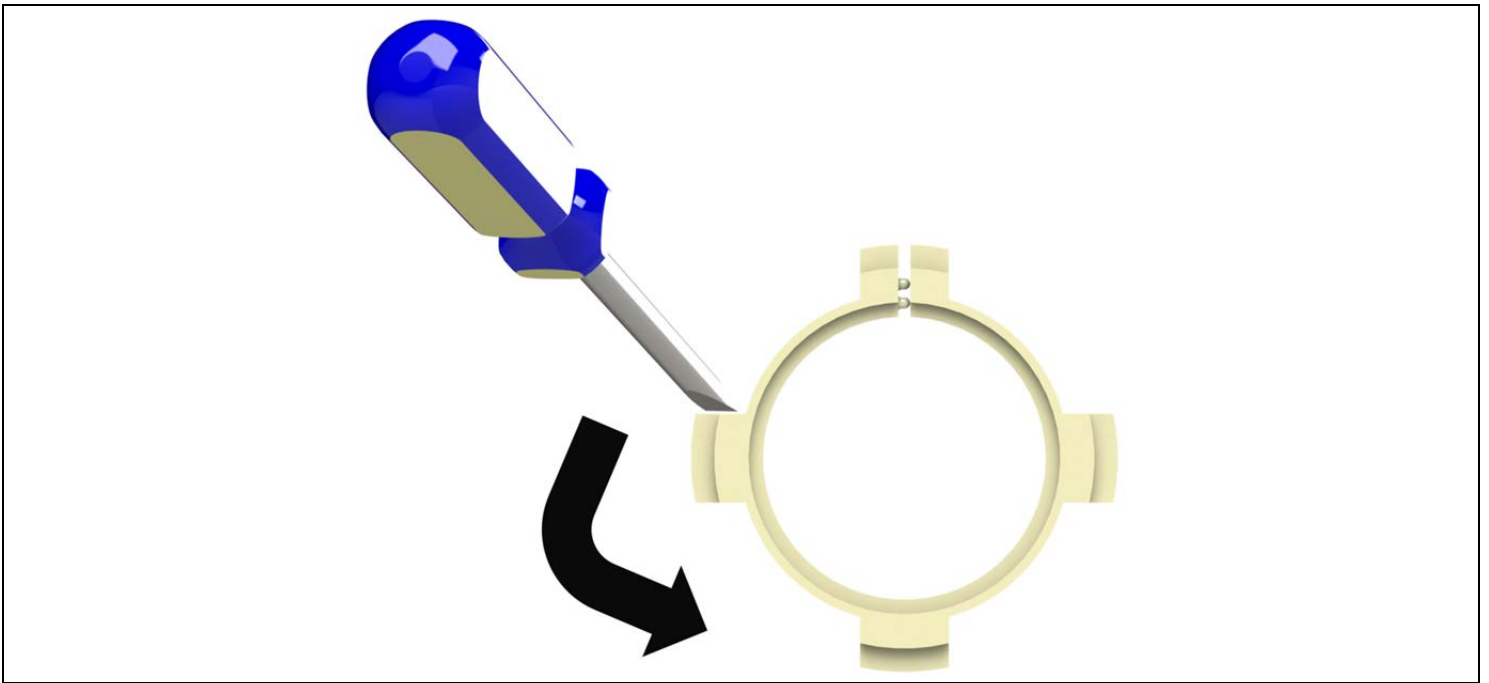

Figure 14. Disassembly Step 3
3. With the bearing clips disengaged, locate the bearing tabs at either end of the driveline. Insert a flat head screwdriver into the groove indicated in *Figure 14*, below. Rotate the bearing tab approximately an eighth of a turn in the counter-clockwise direction.